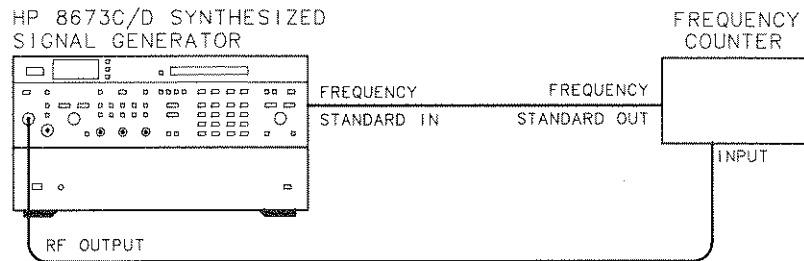

Figure 4-10. Frequency Range and Resolution Test Setup
1. Connect the equipment as shown in Figure 4-10. Set the Signal Generator rear panel **FREQ STANDARD INT/EXT** switch to **EXT**. Remove the **FREQ STANDARD** jumper and connect **A3J10** to the 10 MHz frequency standard output of the frequency counter. With the Signal Generator and the frequency counter sharing a common timebase, the frequency counter should agree with the Signal Generator **FREQUENCY MHz** display ± 1 count with any selected frequency counter resolution.